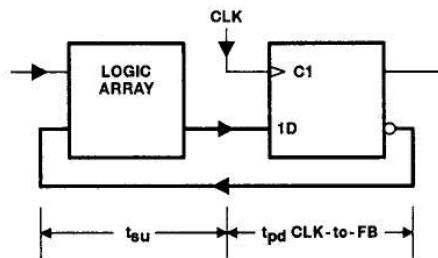

Figure 4. f_{\max} With Internal Feedback
This parameter applies to TIBPAL20R4 and TIBPAL20R6 only (see Figure 4 for illustration) and is calculated from the measured f_{max} with internal feedback in the counter configuration.
***f_{max}* with internal feedback, see Figure 4**